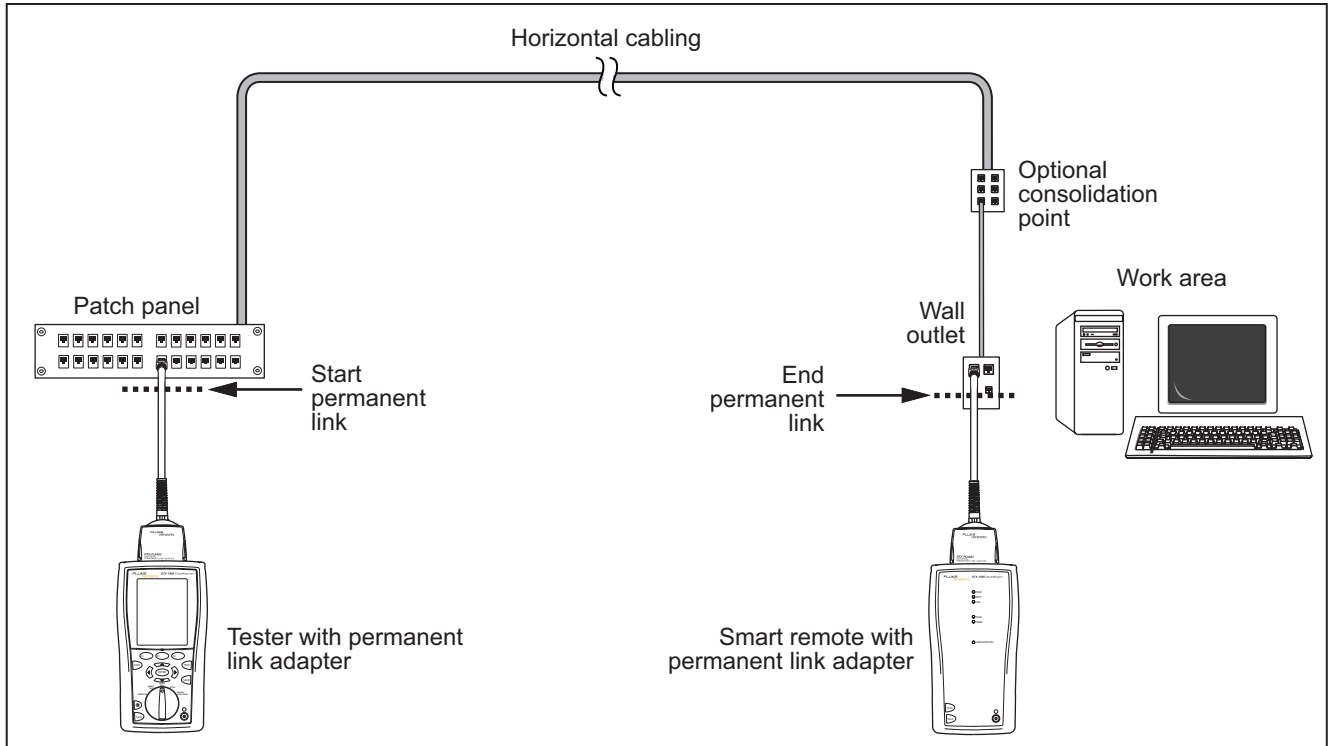

Figure 2-4. Permanent Link Test Connections
- 3-2 Turn on the tester and smart remote; then connect them to the cabling. Figures 2-4 and 2-5 show connections for permanent link and channel installations.